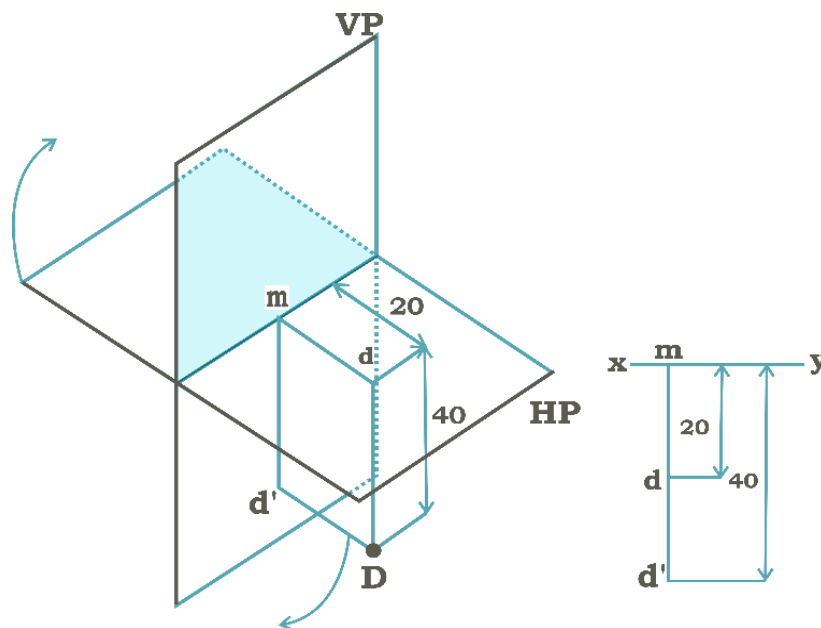

Fig. 2.19: Fourth Quadrant
A point (D) below HP and in front of VP (4th Quadrant)-Refer Fig. 2.19: